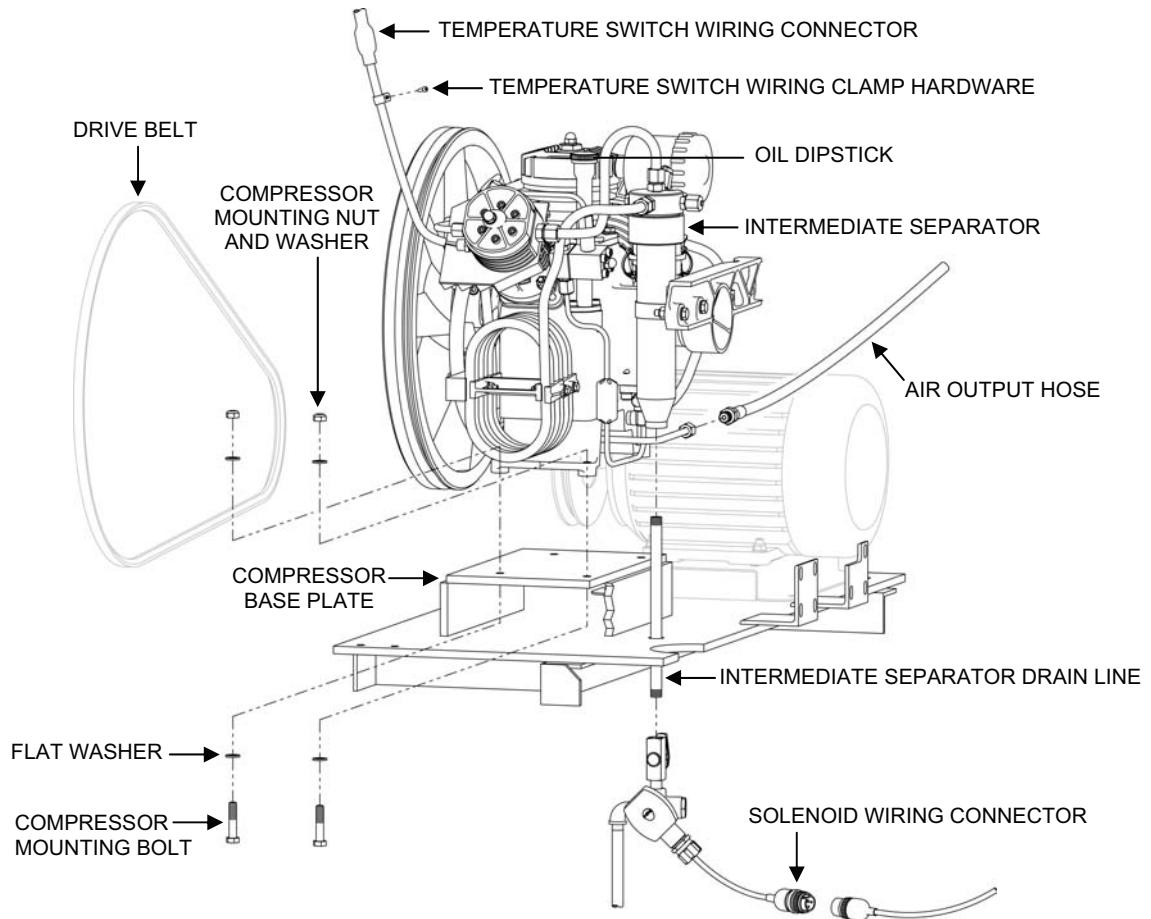

Figure 6. Air Compressor Removal.
3. Remove the air compressor as follows (see Figure 6):
5. Install the new air compressor as follows (see Figure 6):
New compressors are shipped without lubricating oil. Fill the crankcase with oil (approximately 1.5 quarts) before operating the compressor, or equipment damage will result. (See Figure 6 for oil dipstick / fill port location).